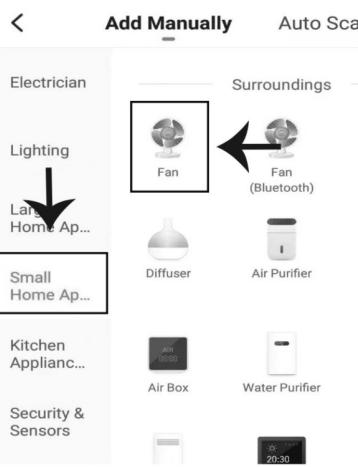

Fig 5
Step 7: To select the device, tap on Small Home Appliances, and then choose “Fan” to start Pairing process of the device to the app (Figure 5).